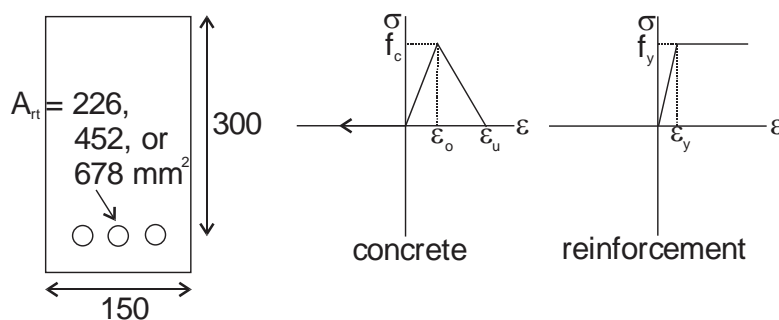

Figure 1: section and material properties
- 6) For the cross sections in Figure 1(a) draw a full moment curvature relationship based on the concrete material properties in Figure 1(b) and the reinforcement material properties shown in Figure 1(c). Modify the concrete stress strain relationship as a function of compressive strength using the factors in Table 1.